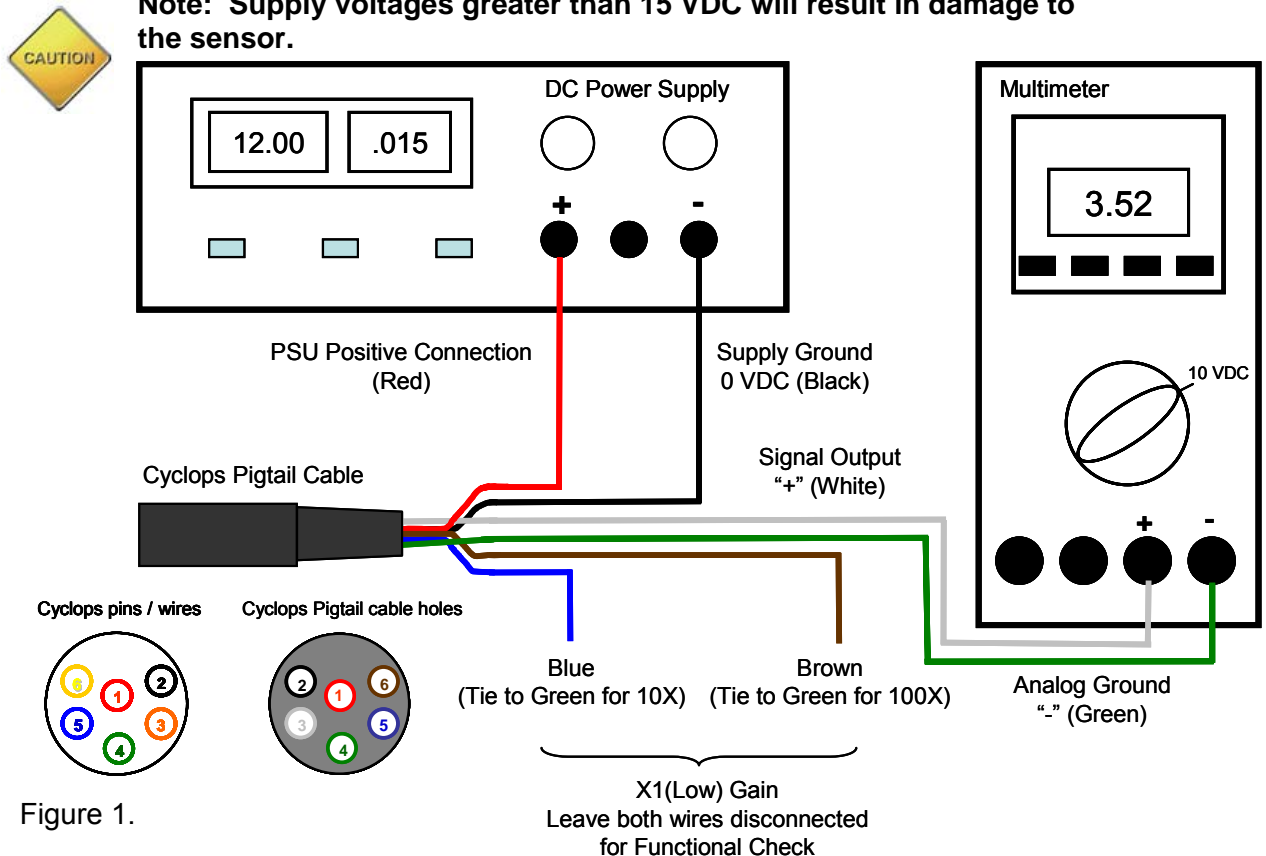

Figure 1.
To perform a functional check on the Cyclops, connect the Pigtail colored wires to the power supply and multi-meter as shown in Figure 1 below.
With the Cyclops connected as shown in Figure 1 answer questions 1-3 by making the following functional tests:
- 1) For *in vivo* applications, take a natural sample of water from a sampling station where you plan to deploy the Cyclops. Applying good measurement practices, store it properly and quickly transport it to a laboratory where you have the Cyclops connected to a multi meter and DC power source (see *Figure 1*).